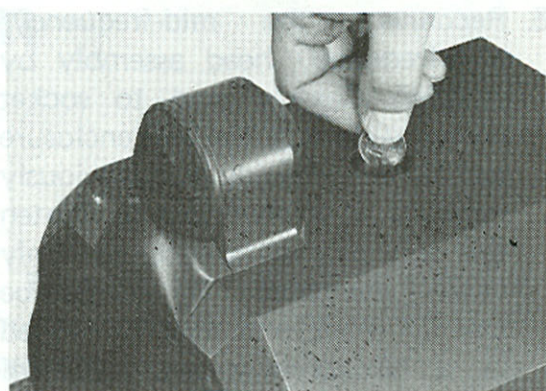
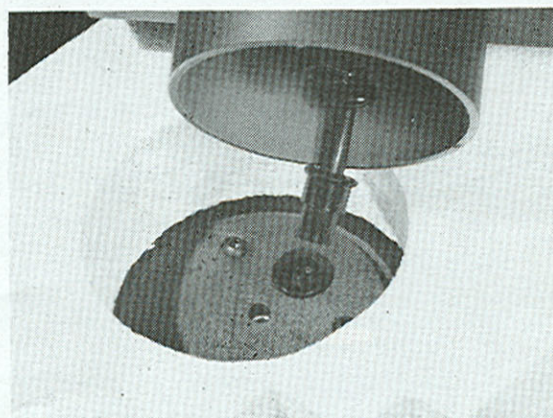

Fig. 6
Fig. 8
4. Using the coin provided in the accessory pack loosen and remove the head retaining bolt (Figs 6 and 7), lift head assembly and unplug flexible lead from the bass chamber (Fig. 8). Remove the polystyrene block under the mid-frequency head assembly.